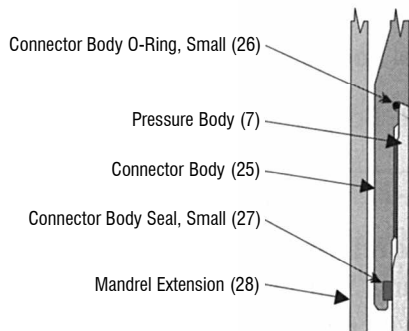

Figure 8-9: Connector Body Small Seal Installation
9. Connector Body (25): Install the Connector Body (26) (small) O-rings and Small Seal (27) into the ID stencil groove end of the Connector Body (25), as illustrated in Figure 8-9. The Connector Body (25) will be used later in these procedures.